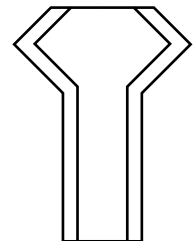

Fig 4
4. Gradually wind the cone downwards until the tube looks like Fig 4.